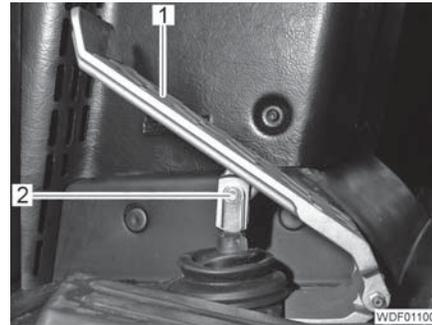

Fig. 363 Brake pedal
- Unlock the pin (Fig. 363,2) and pull it out of the fork end.
- Fold the pedal (Fig. 363,1) upwards.
- Insert the front floor mat into the cab and push the pedal (Fig. 363,1) through the floor mat.
- Fold the pedal (Fig. 363,1) forwards.
- Push the pin (Fig. 363,2) through the fork end and secure.